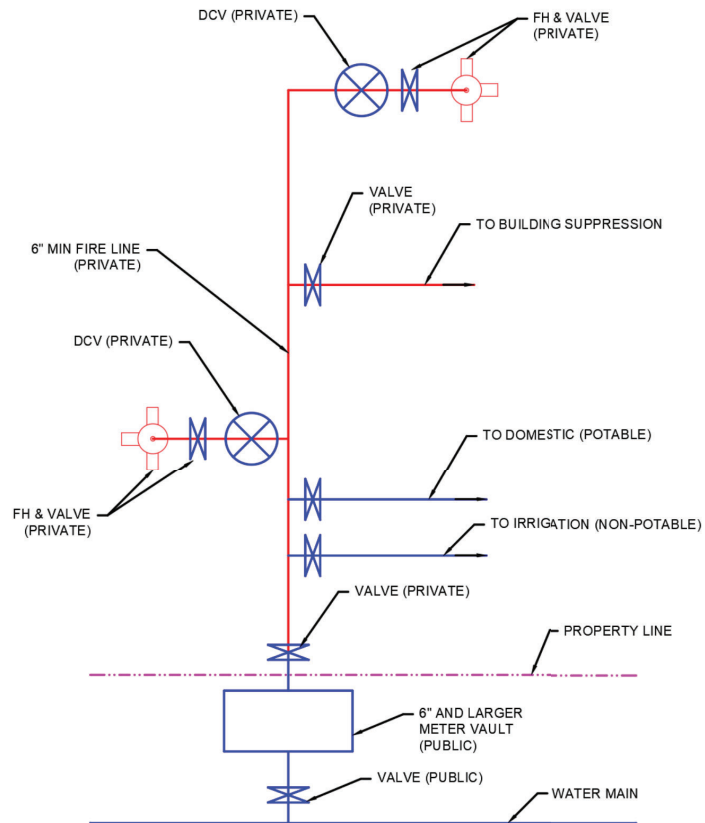

Figure 12- Fireline Installation Option 3
- 4.1.3. Installation 3 – If domestic demand requires a six (6) inch meter or larger and the fire line and fire hydrants are connected to the domestic line, a separate DCV must be installed in front of all fire hydrants per the IPC. This will require a full-service fire meter. (Figure 12)